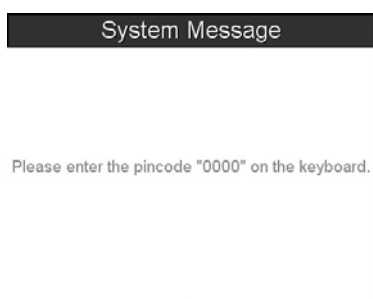

FIG. 32 System Message: Please enter the pincode
6. If a pincode needs to be entered from the device, a *System Message* popup window appears, requesting that this be done (FIG. 32).